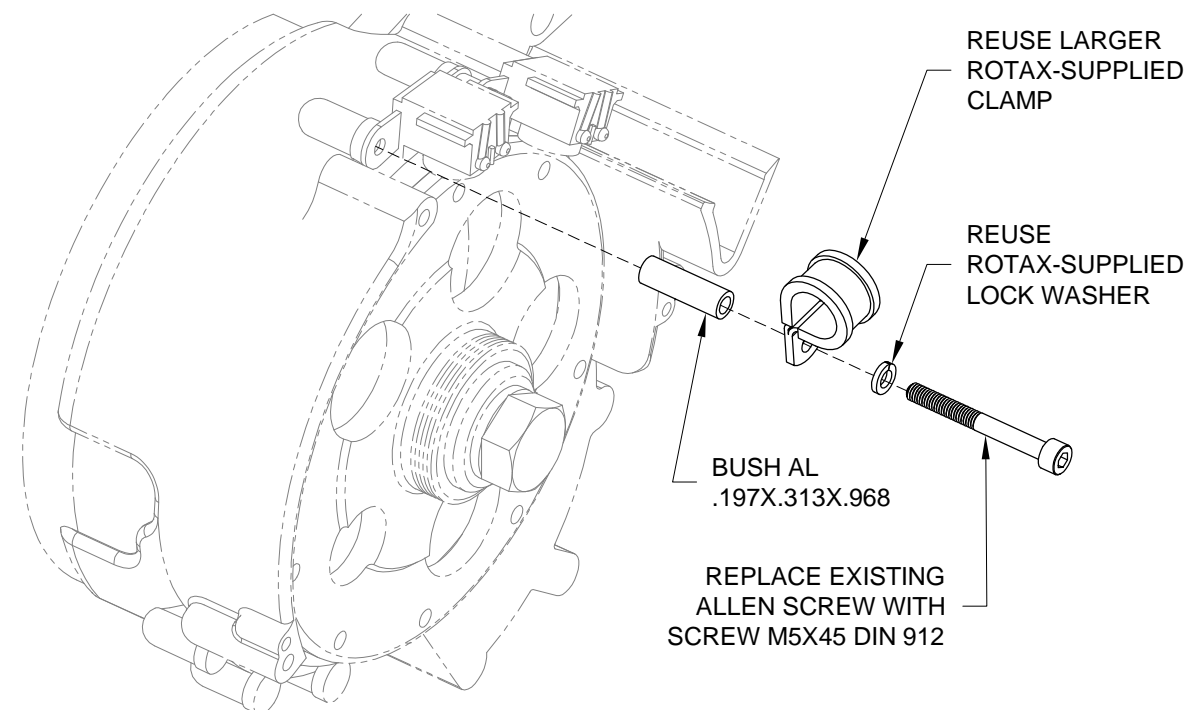

FIGURE 1:
Step 1: Discard the smaller clamp, Allen screw and spacer. Reattach the larger clamp and wire harness to the generator as shown in Figure 1. Torque the Allen screw to 55 in-lbs.